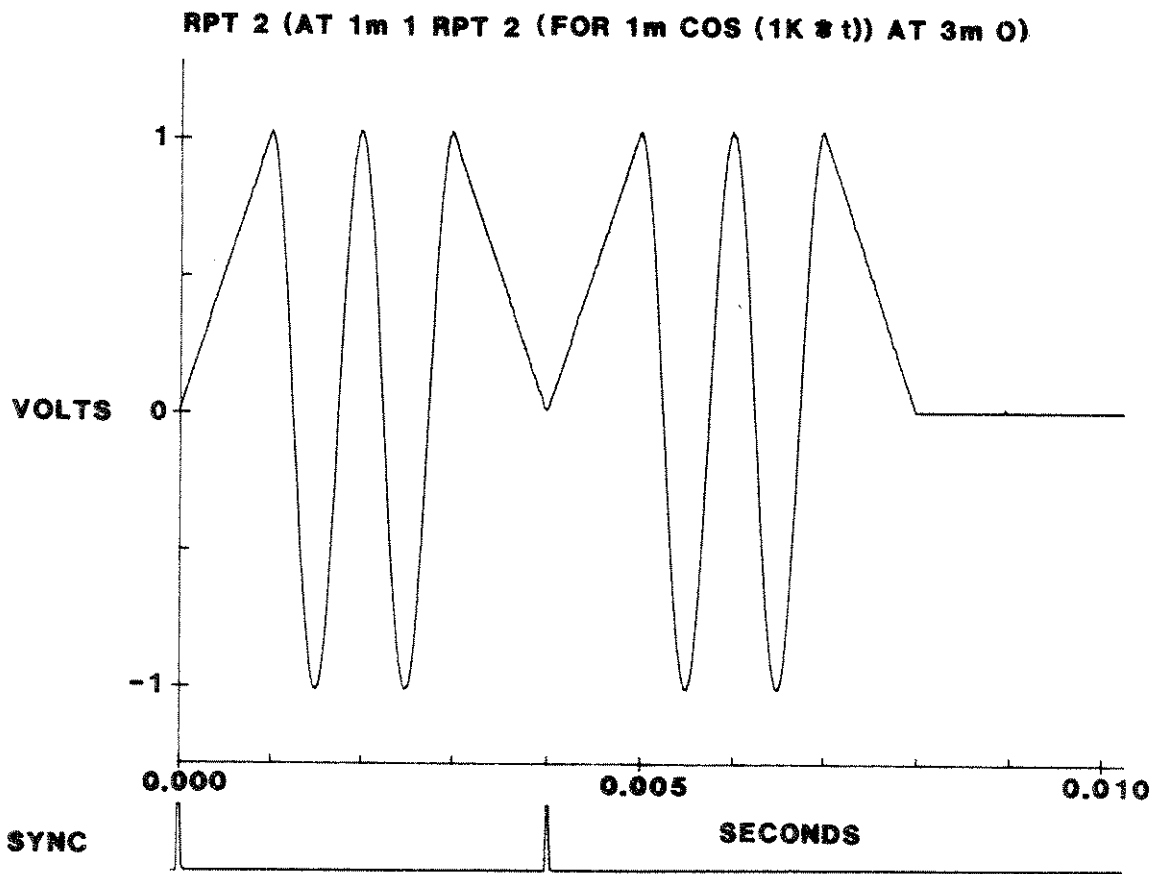

FIGURE 19
An example of this is shown in Figure 19 where the inner repeat loop generates two (2) cycles of a 1 kHz Cosine wave; this inner loop is preceded by a 1 ms ramp. So, the outer loop repeats two (2) times the combination of the ramp and the two cycles of Cosine wave. Note that after the outer loop finishes, we encounter the directive “`AT 3m 0`”; this forces a zero at 3 ms and for all time after. From the waveform shown in Figure 19 you can see that this zero voltage was forced at 8 ms into the waveform which seems to contradict the 3 ms directive. This is because looping time is not counted in the determination of AT and TO directives. In the example, it can be seen that the